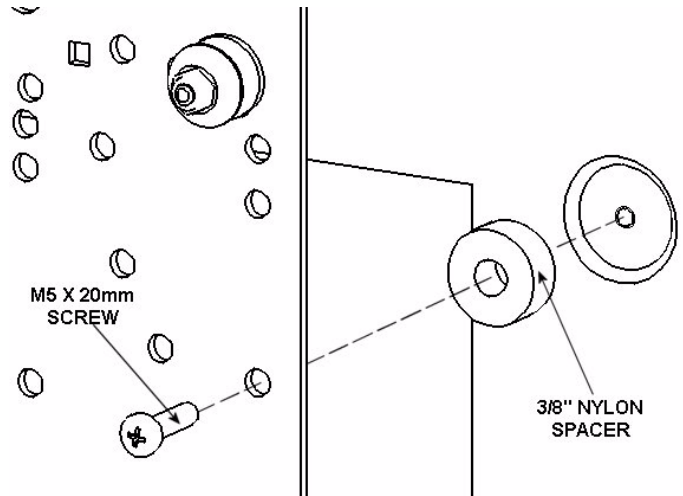
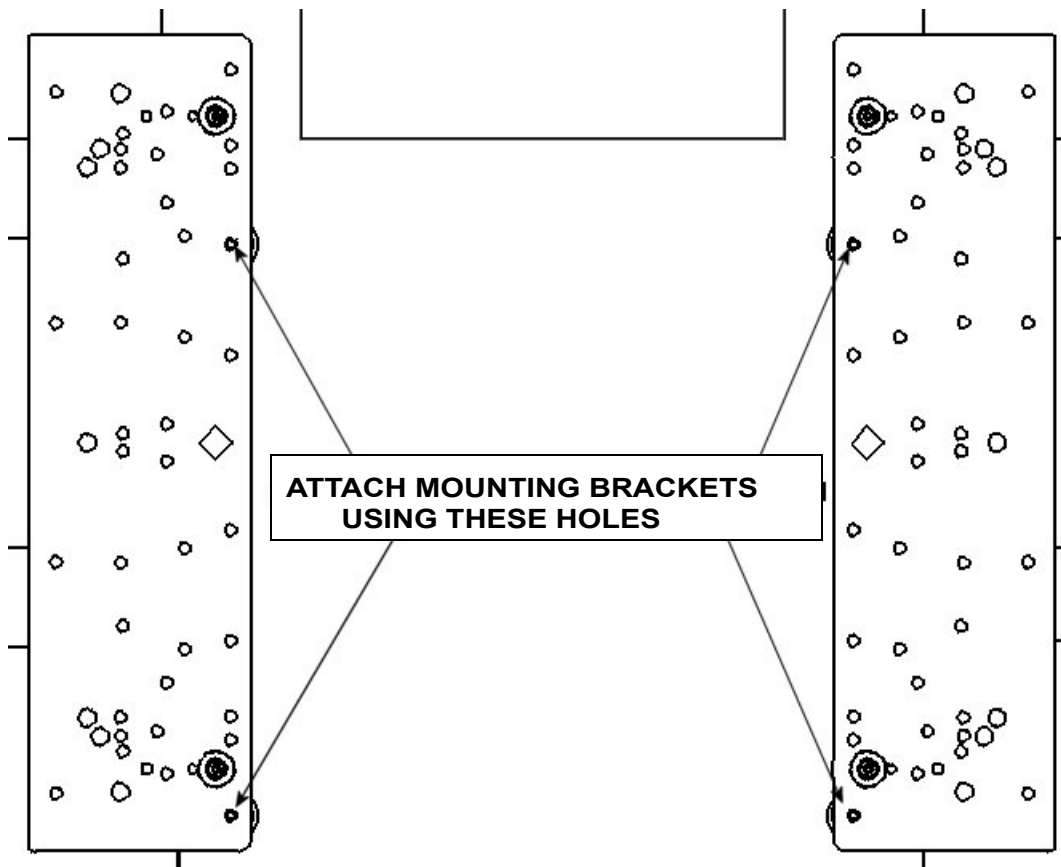

Figure 14. Spacer Installation for Group 6
Figure 15. Bracket Attachment for Group 6
4. Place the interface brackets over the Nylon spacers (see Figure 14 and Figure 15).
6. Using the hardware in the parts bag labeled C, attach the interface brackets to your display in the proper holes in each interface bracket (See Figure 14 and Figure 15). Do not overtighten the mounting screws.